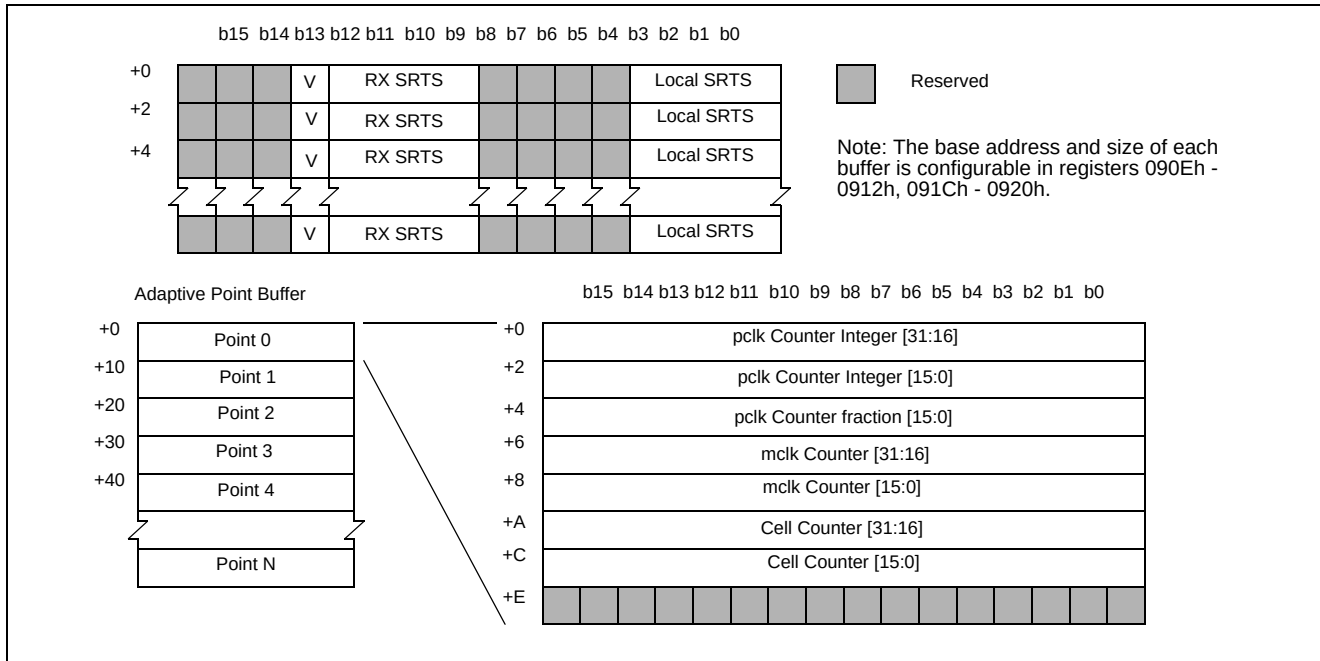

Figure 49 - Clock Recovery Information Buffers
Figure 49 on page 99 indicates the format of the circular buffers in external memory that contain SRTS and adaptive point information. In adaptive clock recovery, a point is the information pertinent to the reception of a single cell. In SRTS, a point is the information corresponding to reception of an SRTS value (gathered over eight cells). If the received SRTS value is corrupt (due to errors in the received cells) the valid bit (V) will be 0.